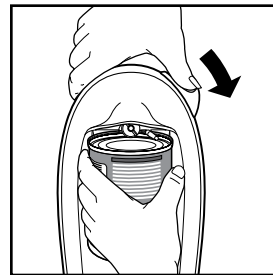

Figure 3
4. Hold can and push Switch down. See Figure 3. Can will be held in place as long as switch is down.
5. Hold Switch down until can makes one (1) full rotation totally separating lid from can. Lid may spin in reverse when completely severed.